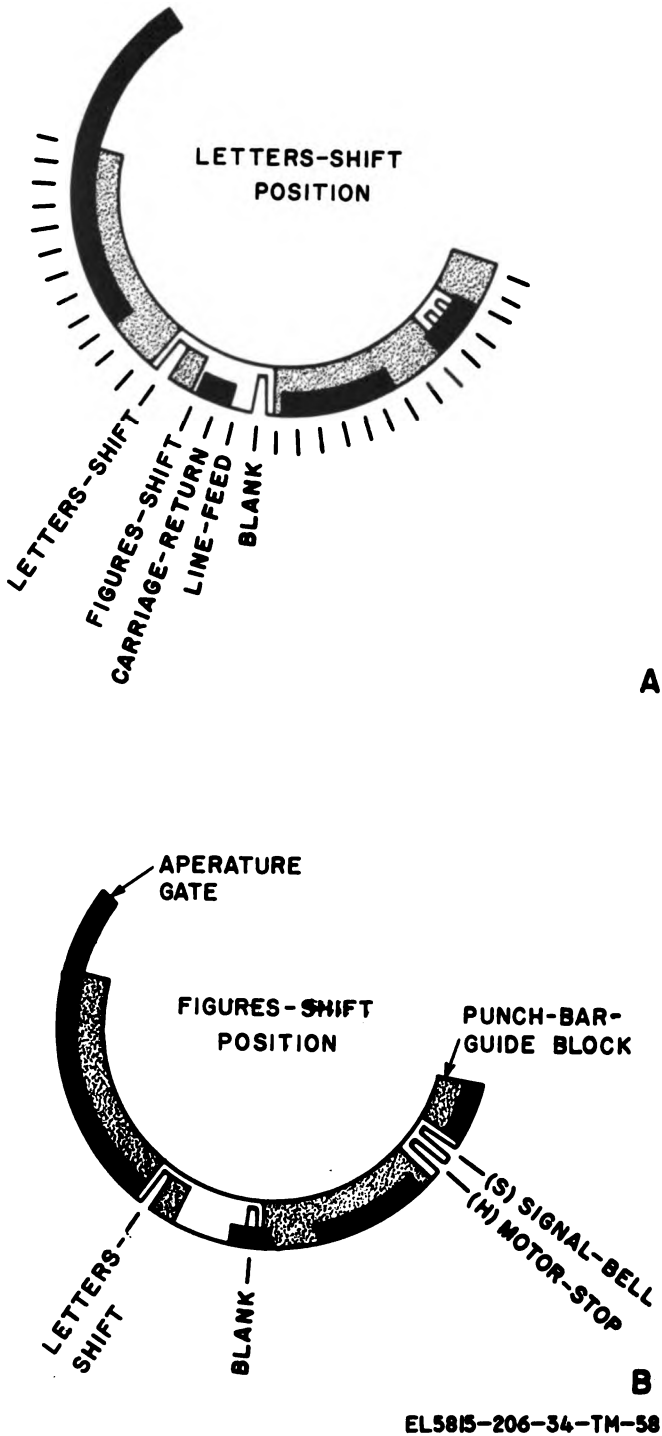

Figure 2-58. Location of stopped positions of function-selecting arm after receipt of function code groups.
d. *Suppression of the Signal-Bell Operation.* When the platen is in the letters-shift position, the aperture gate also is in the letters-shift position (A, fig. 2-58 and A, 2-59). When the letter S code group is received under this condition, the type-selecting arm causes the letter S to be printed (para 2-21). The function-selecting arm is not permitted to push the signal-bell punch bar inward to ring the signal bell because a blocking portion of the aperture gate blocks inward movement of the punch bar. The lobe of the function-cam causes the lower end of the function-cam follower to move counterclockwise, and the carriage-feed operation occurs (para 2-22). When the platen is in the figures-shift position, the aperture gate also is in the figures-shift position (B, fig. 2-58 and B, 2-59) of the signal-bell mechanism and the motor-stop mechanism (para 2-35).
d. **Suppression of Motor-Stop Operation.** When the platen of the page printer is in the letters-shift position, the aperture gate (fig. 2-58 and 2-59) is in the letters-shift position also. When the letter H code group is received under this condition, the type-selecting arm causes the letter H to be printed (para 2-21). The function-selecting arm is not permitted to push the motor-stop punch bar inward to stop the motor, because a blocking portion of the aperture gate blocks inward movement of the punch bar. The lobe of the function cam causes the lower end of the function-cam follower to move counterclockwise, and carriage feeding occurs (para 2-22).